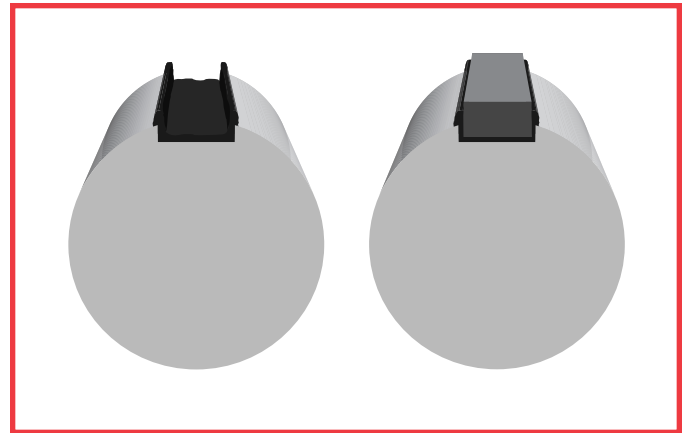

Figure 22. Fill keyway with epoxy and install coated key.
3. **Apply the recommended epoxy** using a spatula or putty knife. Use a thin coat on the bottom and a thicker layer on the side walls to ensure the key will not be raised and also to ensure a close tolerance fit. (See figure 22)